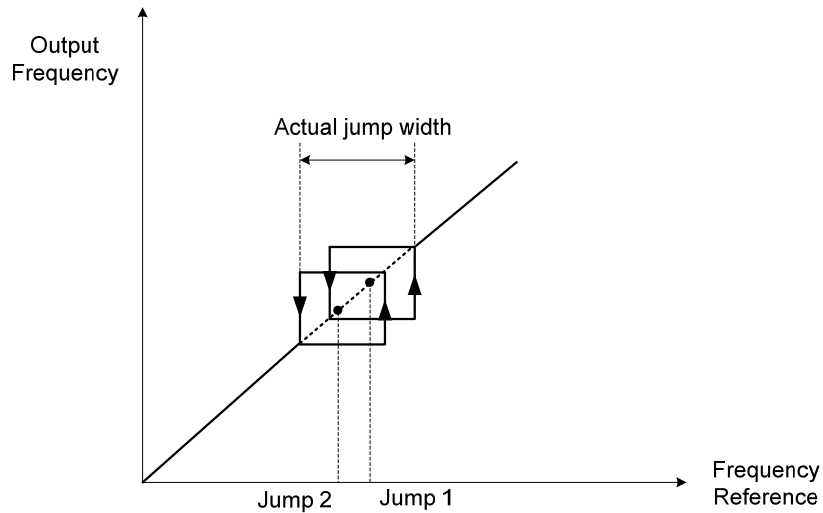

Figure 4.3.87 Jump frequency overlap
- . When the set jump speeds overlap each other, their sum will be regarded as the jump range, please refer to the following figure 4.3.87.